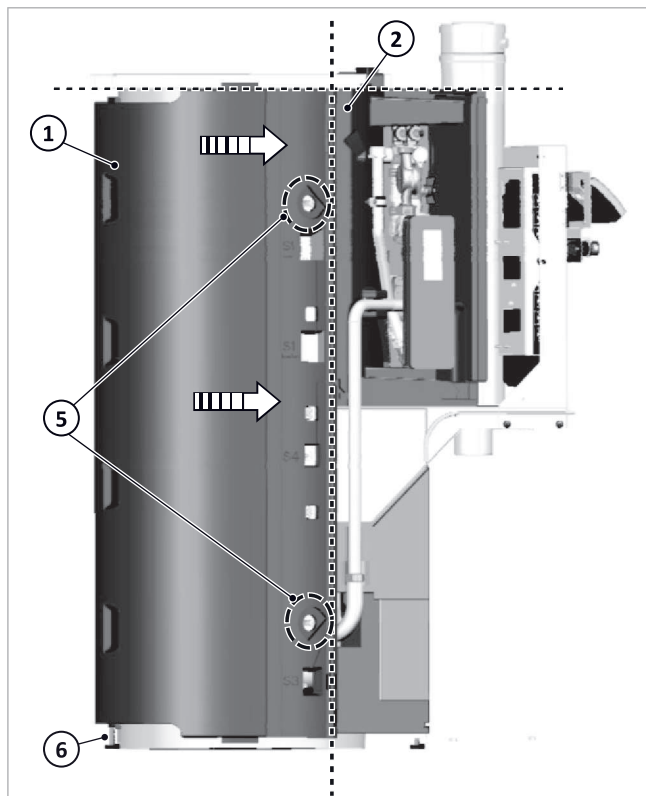

Fig. 18: Positioning the rear tank insulation
3. Use the angled washer (3) and screw (4) to fasten the tank insulation onto the tank at the top and bottom → fig. 18 (5).
- Align the straight top end of the rear tank insulation → fig. 18 (1) with the station insulation (2)
- level on the vertical to the station insulation → fig. 18 (2) and to the flange insulation.
6. Turn out the foot → fig. 18 (6) until it reaches the floor.